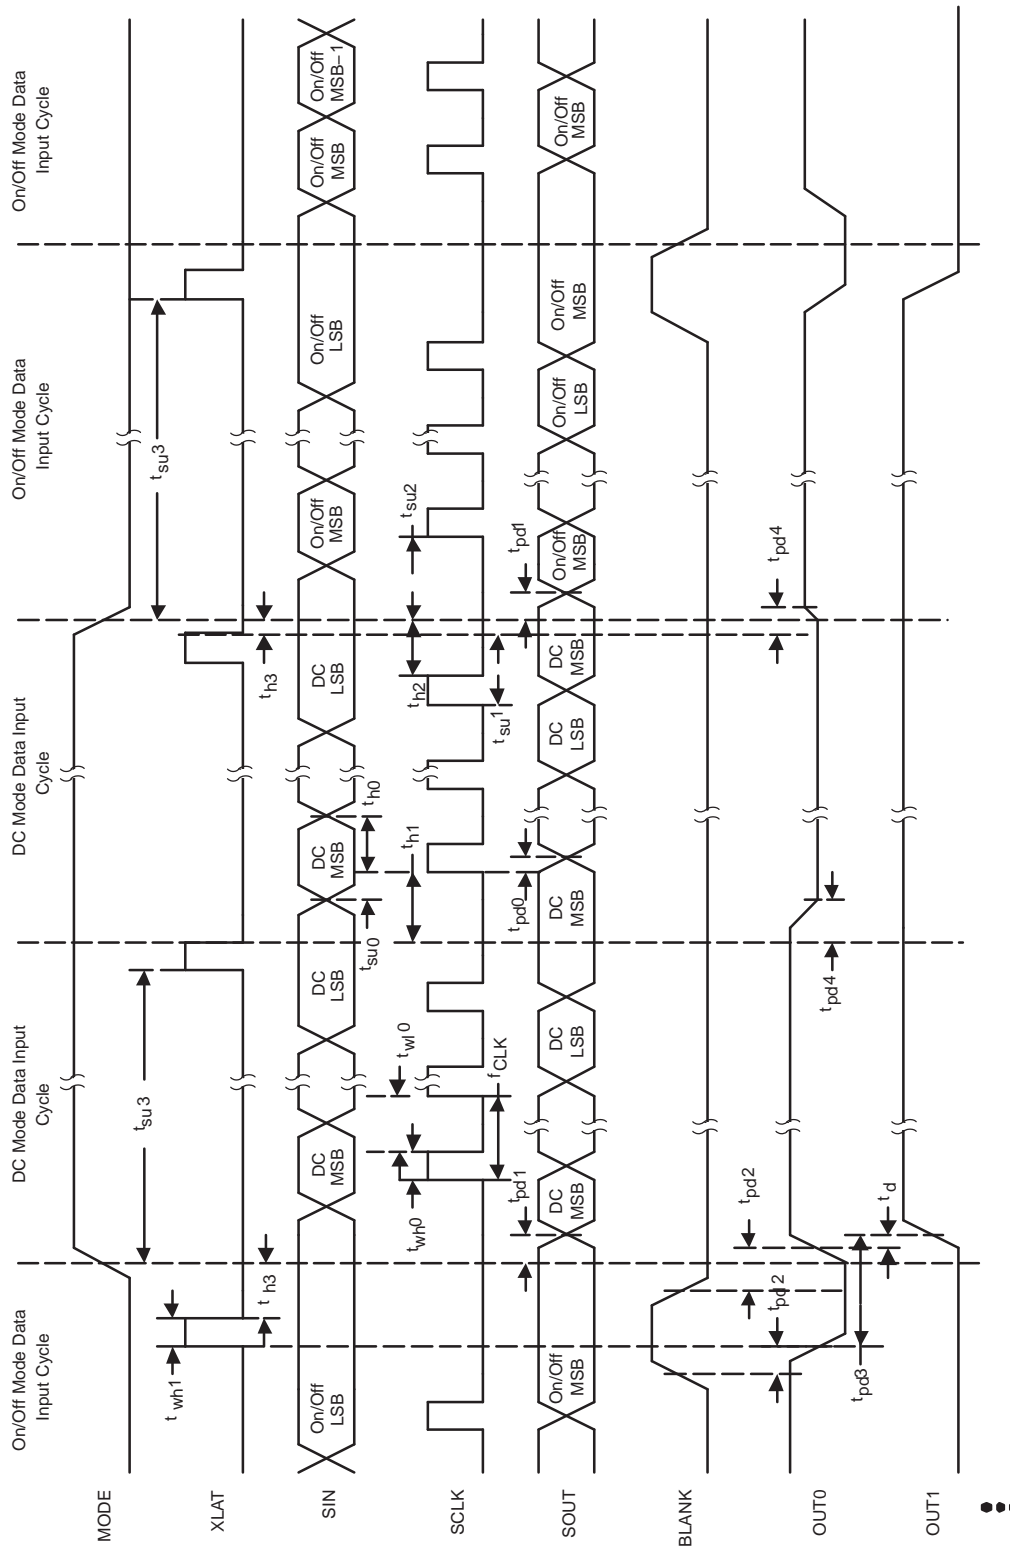

Figure 10. Timing Chart Example for ON/OFF Setting to Dot-Correction
- (3) See Figure 4 . Figure 10
- (4) See Figure 5 and Figure 10
- (5) See Figure 5 and Figure 10
MODE must be set to high to input data into the dot-correction register. The internal input shift register is then set to 112-bit width. After all serial data is clocked in, a rising edge of XLAT latches the data to the dot-correction register (Figure 10).
MODE must be set to low to input On/Off data into the On/Off register. The internal input shift register is then set to 16-bit width. After all serial data is clocked in, a rising edge of XLAT, during BLANK = high, is used to latch data into the On/Off register. Figure 10 shows the On/Off data input timing chart.